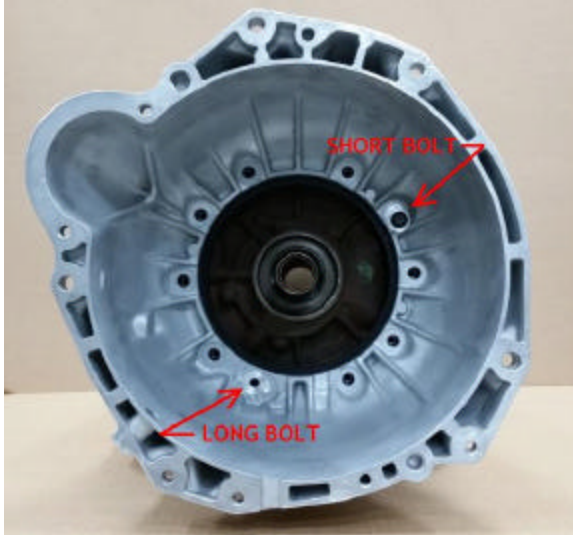

Figure 5 – RB bellhousing installed
- Place the bellhousing onto the adapter and rotate into position. Sight through the “long bolt” and “short bolt” holes indicated in Figure 5 to locate the bellhousing.
- Grease the entire shank and under-head flange surface of the long bolt and one short bolt and thread into the positions identified in Figure 5.